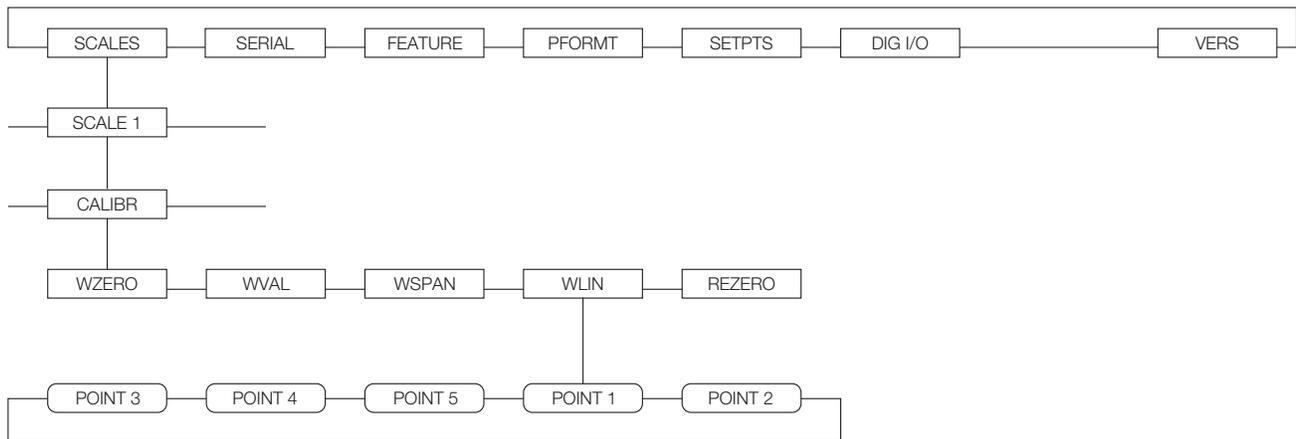
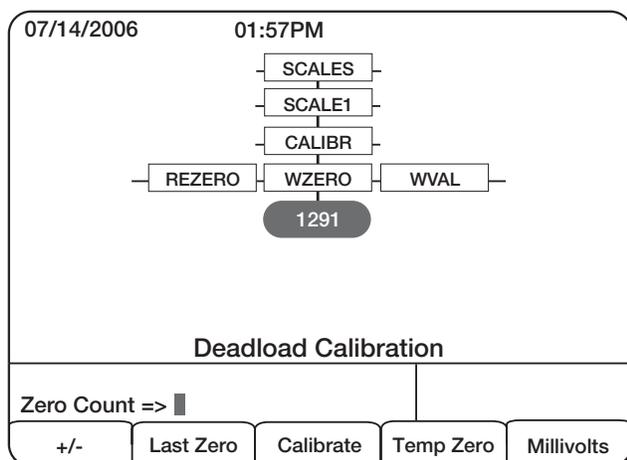

Figure 4-1. Calibration (CALIBR) Submenu
Figure 4-2. WZERO Calibration Display
The CALIBR submenu (under the SCALES menu, see Figure 4-2) is used to calibrate the 920i. The zero, span, and linear calibration point displays provide a set of softkeys used specifically for calibration procedures:
2. With the *SCALES* menu highlighted, press the **down** key, then select the scale to be calibrated. Press **down** again (*GRADS* parameter highlighted), then press **left** to highlight the *CALIBR* submenu (see Figure 4-1). Press **down** to go to zero calibration (*WZERO*). See Figure 4-2 on page 51.